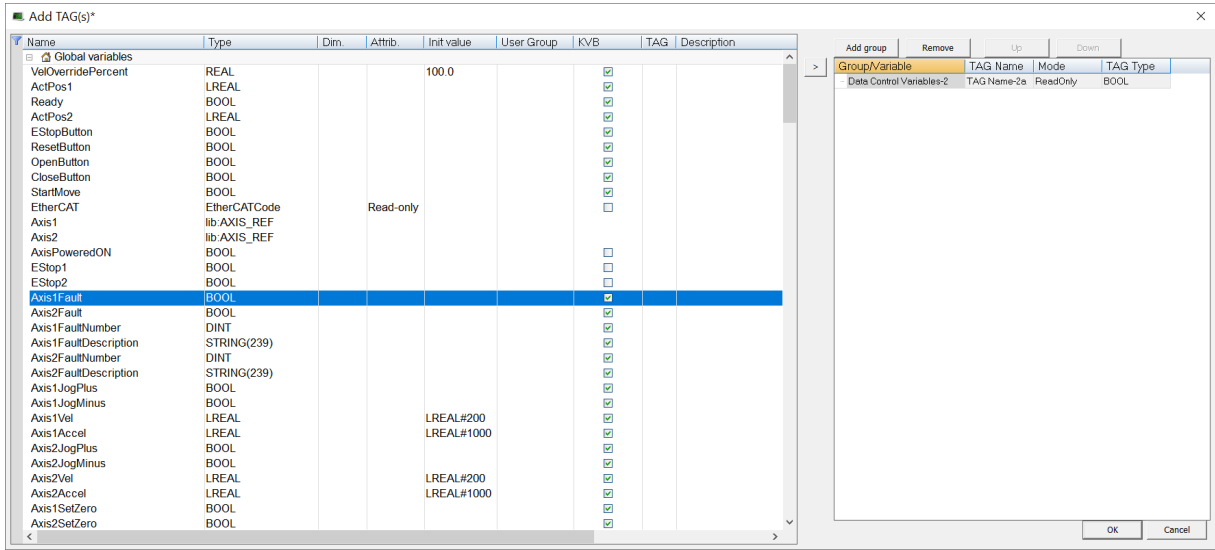

Figure 2-20: Selected variable
- b. In the **Available Variables** table, select a variable and click the  button. (Figure 2-20)